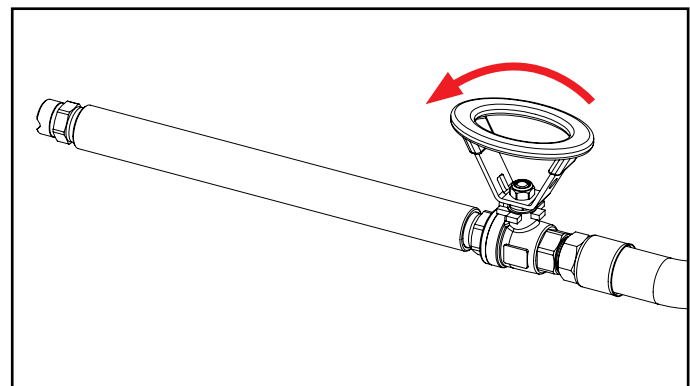

Fig. 6.2: Spray wand with open valve.
3. Open ball valve on spray wand [Fig. 6.2]